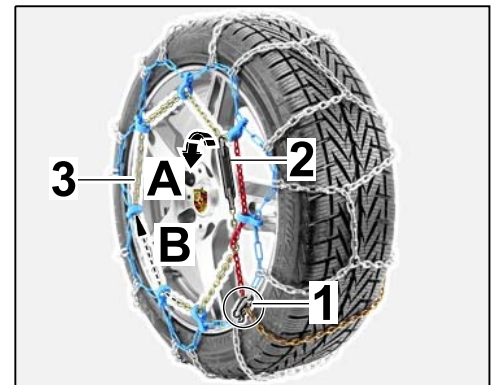

Figure 13
3.1.1 To make it easier to remove the snow chain: Drive/roll the vehicle until the locking plate for the snow chain is positioned according to ⇒ *Figure 13-circle*.
3.1.2 Disengage bungee cord with hook from the chain link (⇒ *Figure 13-A*).
3.1.3 Feed the tensioning chain through the plastic eyelets as far as the locking plate (⇒ *Figure 13-B*).